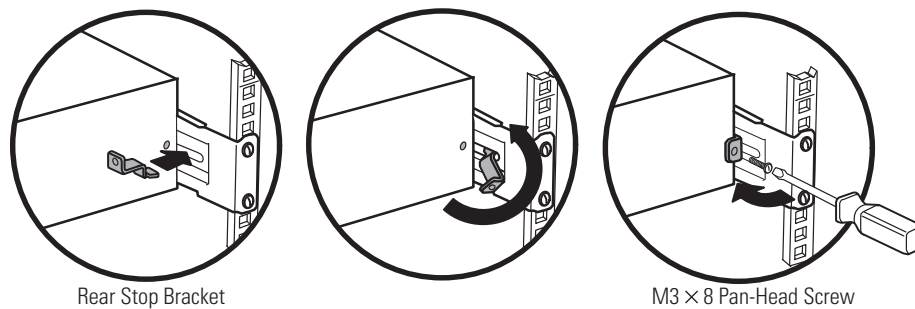

Figure 8. Securing the Back of the Cabinet (Optional)
13. **Optional.** Insert a rear stop bracket through the inside of each rail behind the UPS. Rotate each bracket and slide the bracket until it fits tightly against the UPS's rear panel. Secure each bracket to the UPS with one M3x8 pan-head screw. See Figure 8.